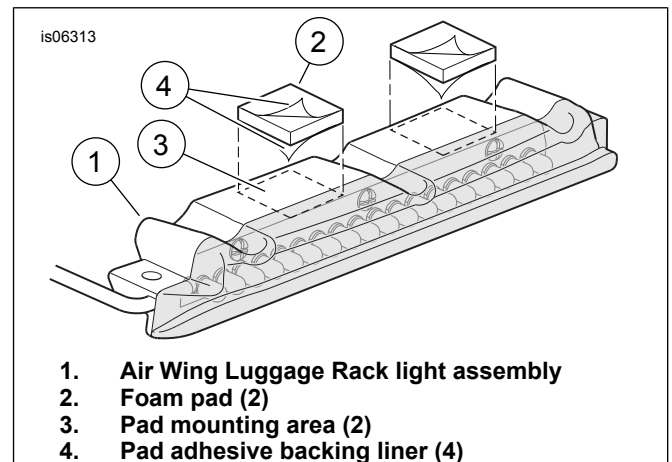

Figure 1. Attach Foam Pads to Light
5. Clean the foam pad mounting areas (E) on the underside of the rack rear crossbar and (see Figure 1 ) on the light (3) with a mixture of 50-70% isopropyl alcohol and 30-50% distilled water. Allow to dry thoroughly.